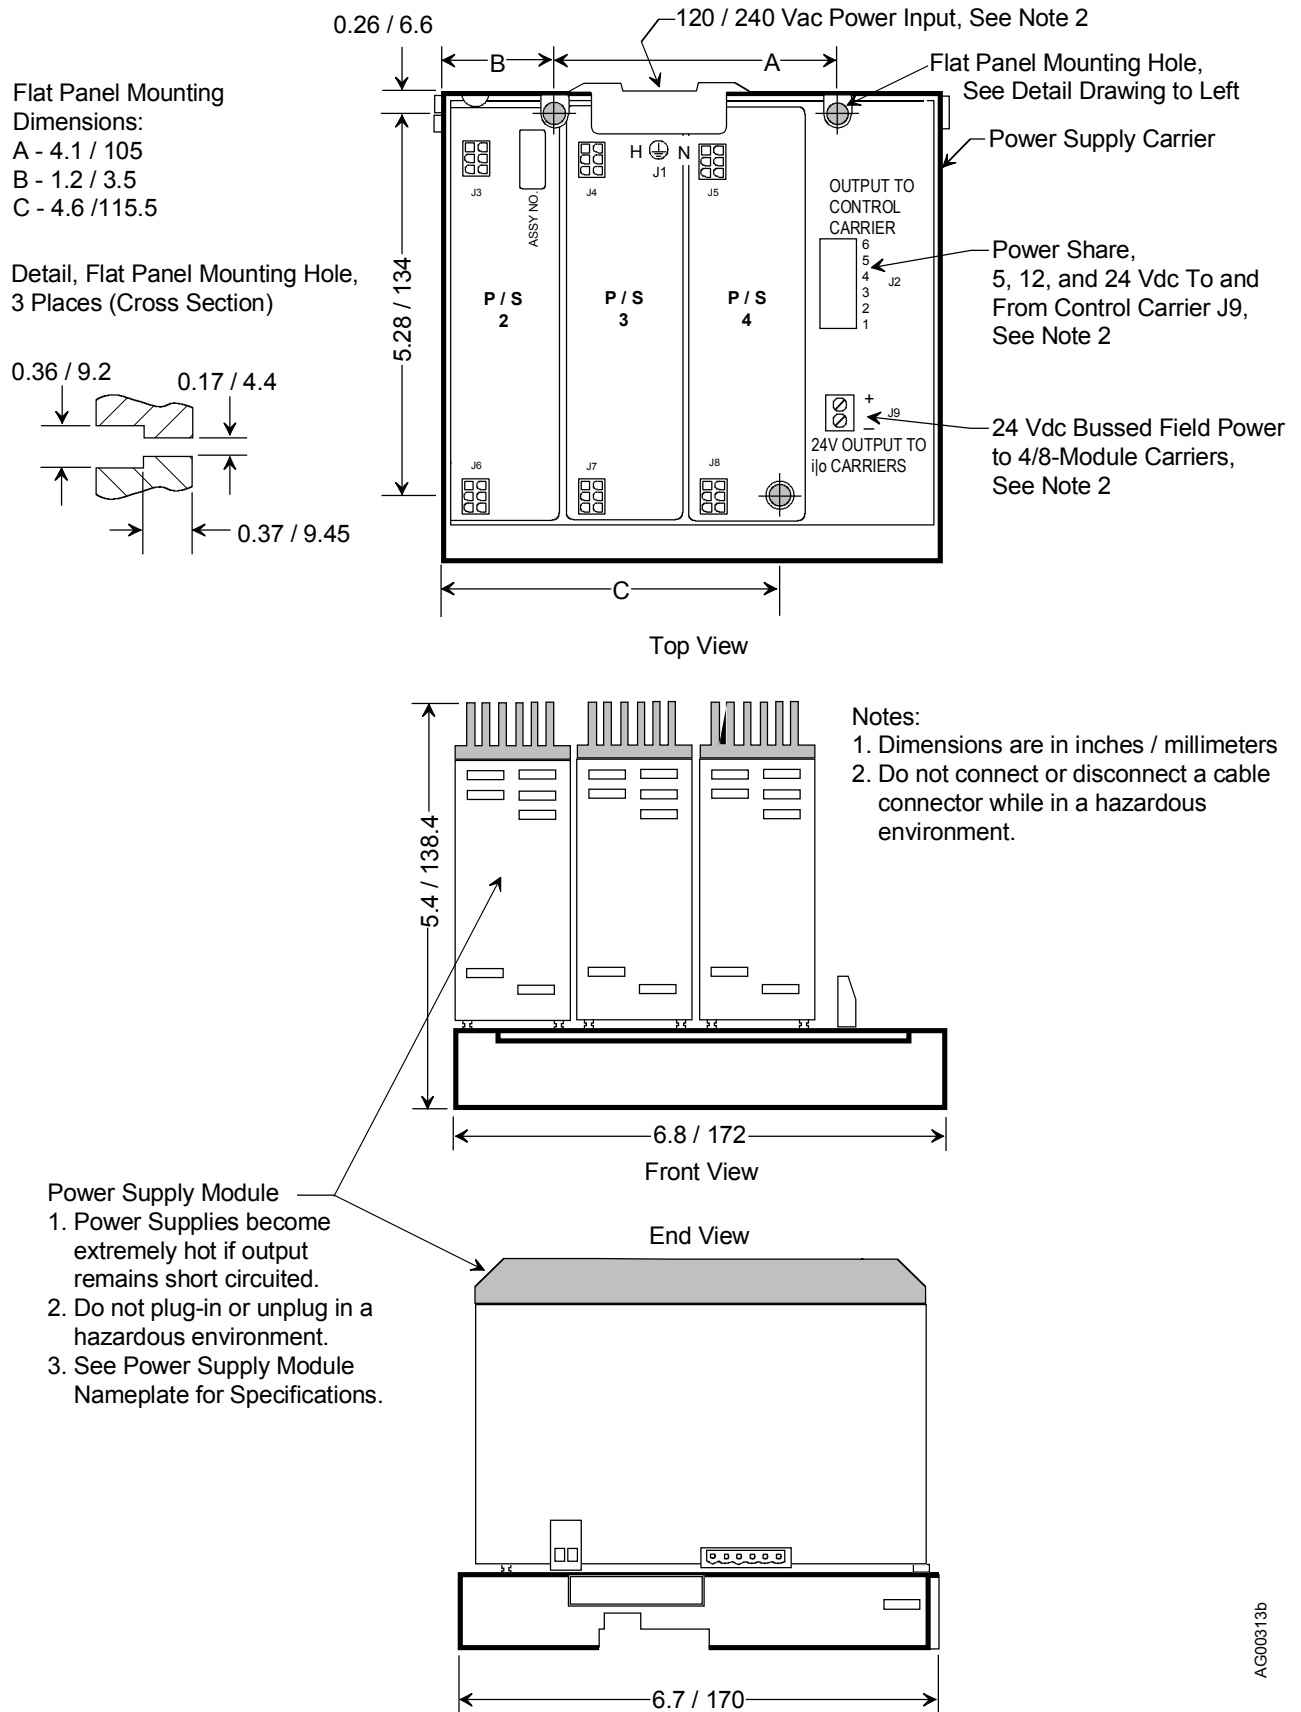

FIGURE 2 Installation Dimensions and Connections
2. Refer to Figure 2 for mounting dimensions and for the mounting hole detail.
Dimensions and Flat Panel Mounting Pattern	See Figure 2